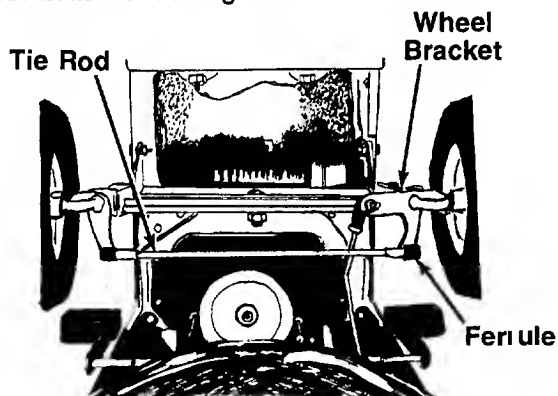

FIGURE 18.
The caster (forward slant of the king pin) and the camber (tilt of the wheels out at the top) require no adjustment. Automotive steering principles have been used to determine the caster and camber on the mower. The front wheels should toe-in 1/8 inch. See figure 18. To adjust, follow these steps:
1. Remove the cotter pin holding the ferrule to the axle bracket. See figure 18.